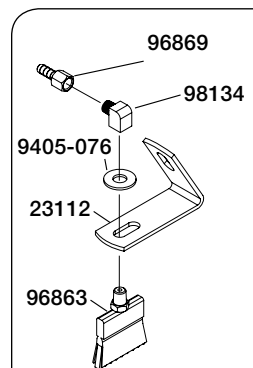

FIG. 2-19
3. Insert the brush (96863) into the bracket (23112) and secure with 3/8" flat washer (9405-076) and elbow (98134). The elbow must face the left-side (Fig. 2-19).
7. Attach the hose barb (96869) to the elbow (Fig. 2-19).